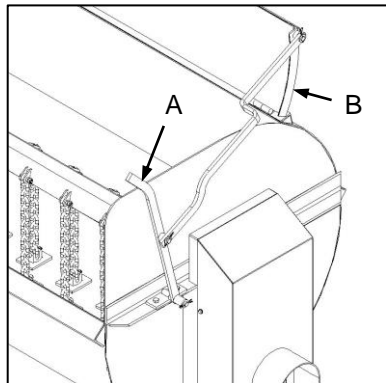

Fig. 1
- ✔ Raise the actuating lever (Fig. 1-A) to retract the flap (Fig. 1-B) during loading.
- ✔ Lig die werkhefboom (Fig. 1-A) om die flap tydens opvulling in te trek (Fig. 1-B).